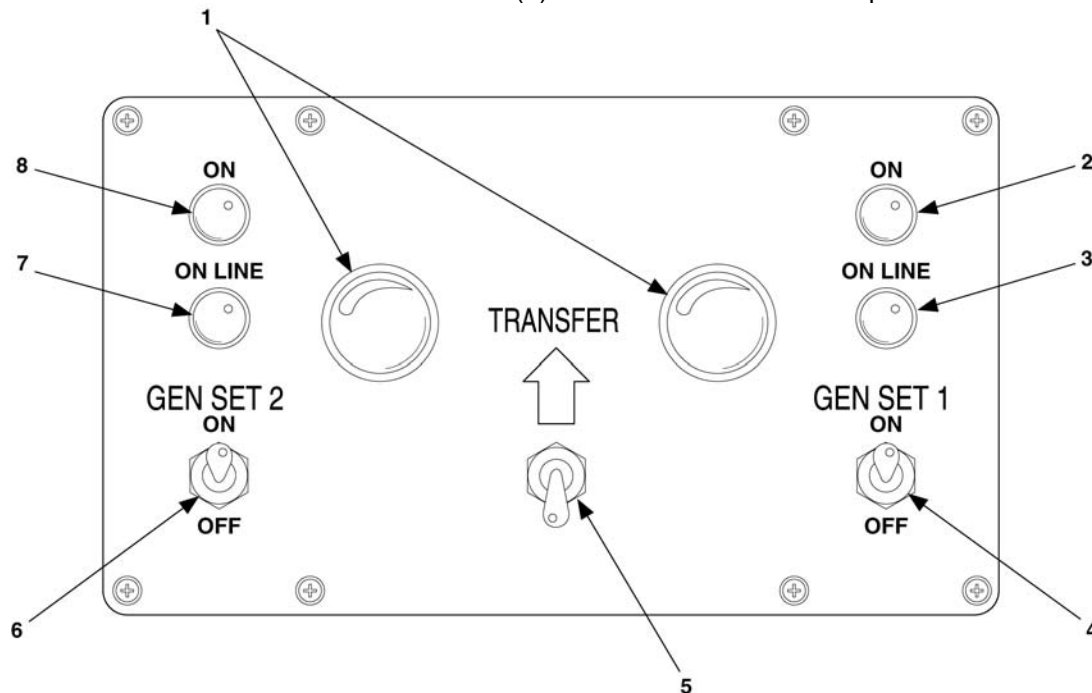

Figure 2-8. Power Plant Operation.
- b. Check that both ON/OFF switches (4 and 6, Figure 2-8) on switch box are at center position.
- c. Check that TRANSFER switch (5) on switch box is at bottom position.
- (1) Refer to Table 2-2 and perform the "Before" PMCS.
- (2) Check that switch box ON/OFF switch (6) or (4) is at center position.
- (3) Check that switch box TRANSFER switch (5) is at bottom position.
- (4) Refer to TM 9-6115-639-13 and:
- (5) Check switch box controls and indicators (Figure 2-8) to ensure that:
- (a) GEN SET ON light (8) or (2), Figure 2-8 and ON LINE light (7) or (3), Figure 2-8 is lit for generator set that has been supplying electric power to the load.
- (b) GEN SET ON light (8) or (2) for generator set just started is lit.
- (6) Move switch box TRANSFER switch (5) in the direction of the arrow. All SYNCHRONIZING lights (1) should be going from bright to dark at the same time. If SYNCHRONIZING lights do not begin to function, report problem to next higher level of maintenance.
- (7) When SYNCHRONIZING lights (1) are dark, hold the switch box ON/OFF switch (6) or (4) for the generator set that was just started to ON position until ON light remains on. Release the switch. The ON LINE light for the first generator set that was running should immediately go out.
- (8) Check switch box lights, as follows:
- (a) The ON LINE light (7) or (3) should be lit for the generator set that was just started.
- (b) The ON LINE light (7) or (3) for the other generator set should be off.
- (9) If lights fail to go on or off, repeat steps (6), (7), and (8). If lights do not function properly, report the problem to the next higher level of maintenance.
- b. The second generator set is now supplying electric power to the connected load. All SYNCHRONIZING lights (1) should be dark.
- a. Set the switch box ON/OFF switch (6 or 4, Figure 2-8) for the generator set to be stopped to OFF position.